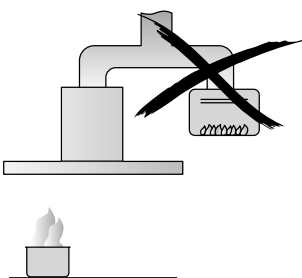

Fig. 1
- The exhaust from the cooker hood must not be discharged into any heating flue, which may carry combustion products from other sources. (Fig. 1)